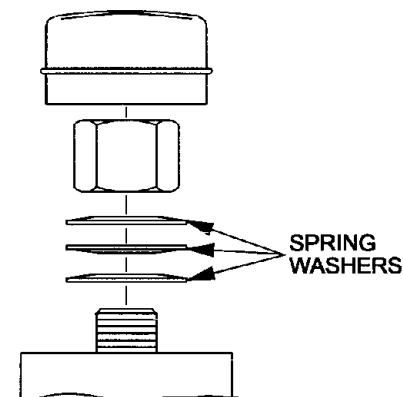

FIG. 12
- a) Remove dust cap from caster and tighten nylock nut until washers are flat and back off 1/4 of a turn to properly set the pre-load on the bearings. Make sure the spring washers are installed as shown in Figure 12.